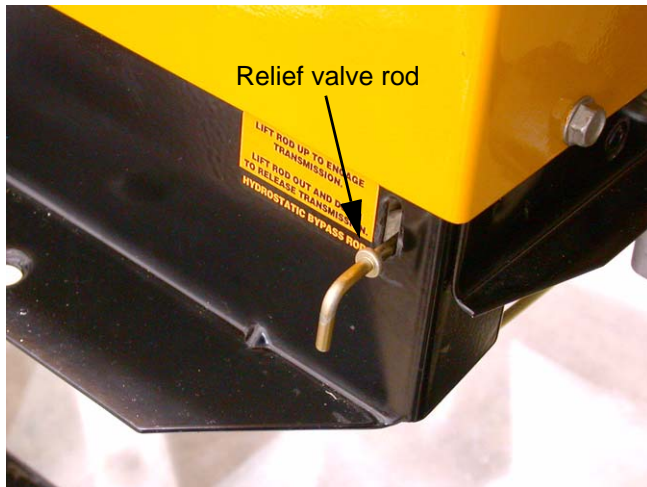

Figure 24.1
24.1. The relief valve is operated using a small rod that is visible at the bottom right corner of the rear of the tractor frame. See Figure 24.1.